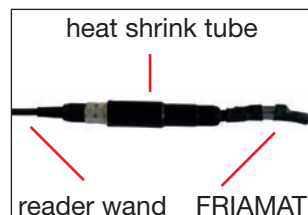

Fig. 1
- Remove carefully the heat shrink tube (Fig. 1) from the reader wand adapter (grey) and both connectors (reader wand cable and FRIAMAT data cable).